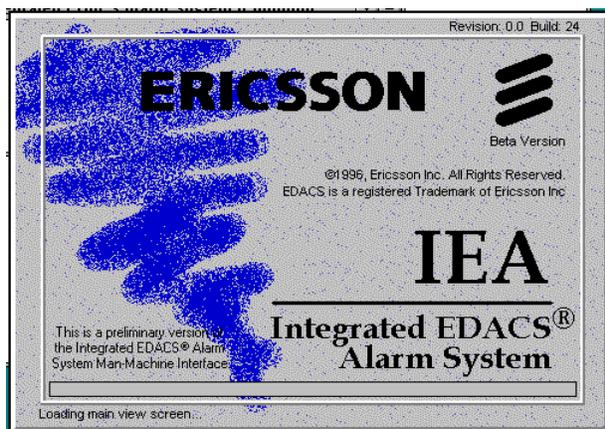

Figure 3 - Introduction Screen
When the personal computer of the Integrated EDACS Alarm (IEA) system is turned on or rebooted the IEA Man Machine Interface (MMI) program automatically starts. The following introductory screen (Figure 3) is displayed.
To restart the IEA system, turn the computer on and the IEA System will automatically restart and display the introductory screen (Figure 3). If the IEA System has been exited and the computer has not been shut down, the system can be restarted by double clicking on the IEA icon (Figure 4). This icon is located in the program manager in the Startup program group.
To reboot the computer, select the File menu from the Main window. Then, select “**Shut Down and Restart Computer**” then “**Local Machine**”. This automatically exits the IEA system, shuts down the computer and then restarts. After the bar at the bottom of the introductory screen shown in Figure 3 has filled the main MMI Window will appear.
- **About** - Displays the “**About**” screen as shown in Figure 3.